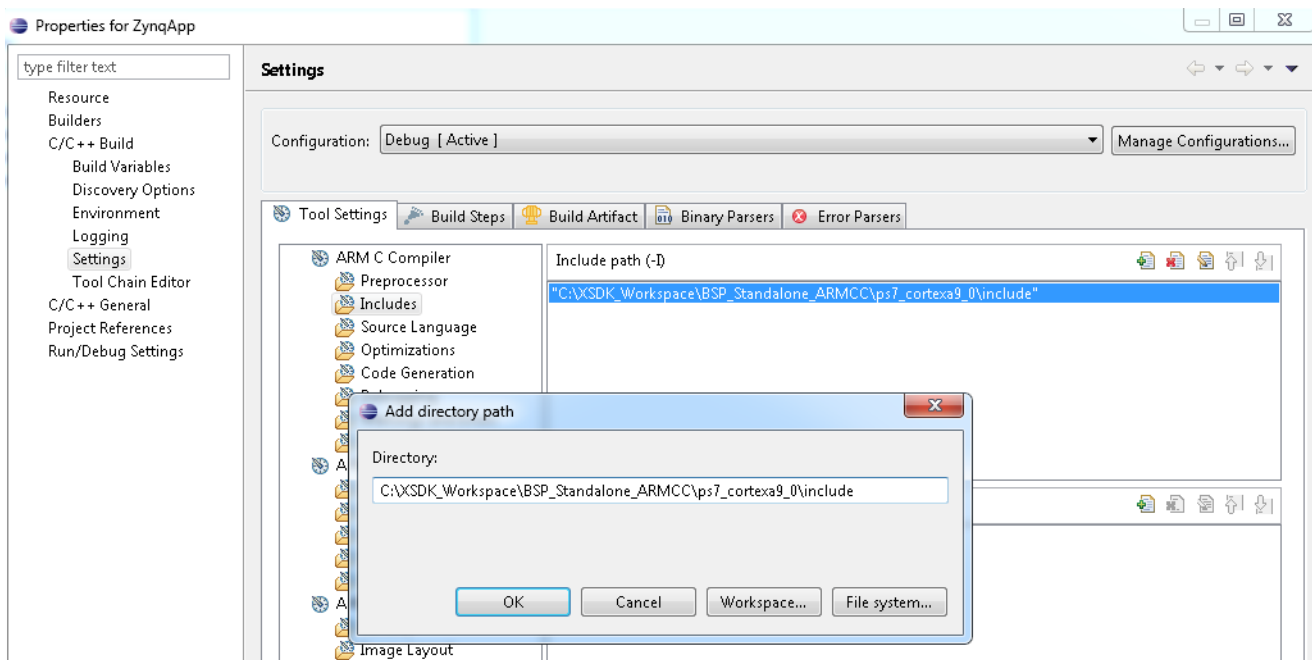

Figure 27: ARM C Compiler Settings
- In the ARM C Compiler, set the `include` paths for the referenced header files generated by the Xilinx SDK libgen process, customized to the hardware configuration as shown below (also see Figure 27):